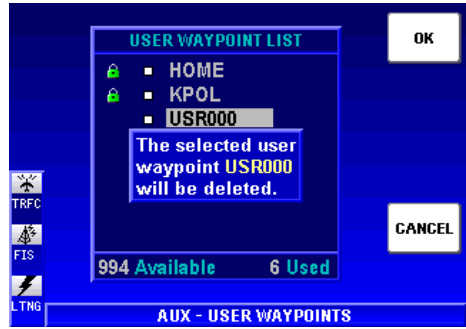

Figure 1-94
2. Press the **DELETE WPT** Softkey. Figure 1-94 will now be displayed.